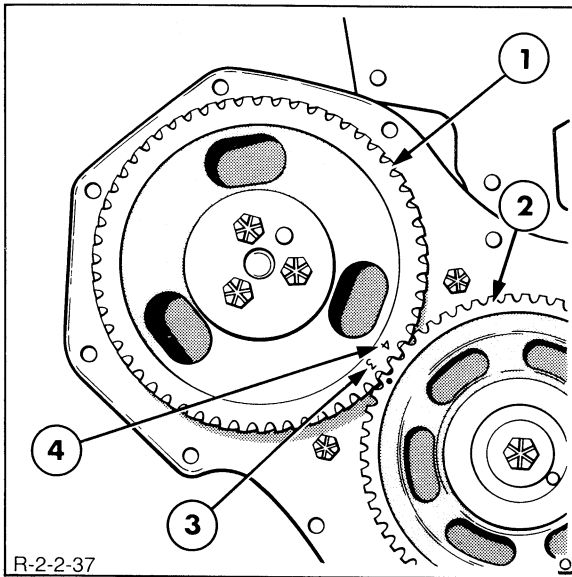

FIGURE 2-22
3. Ensure that the injection pump drive gear is correctly meshed with the camshaft drive gear so that the timing marks are aligned, Figure 2-22.